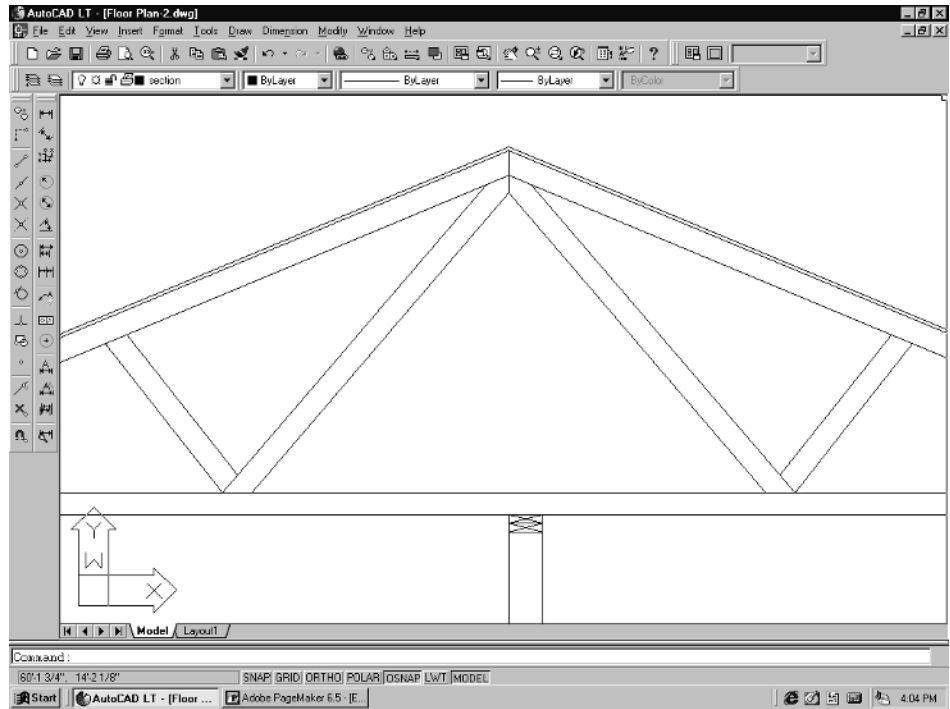

Figure 3-69
4. Erase the center lines of the webbing. Then use the Trim and Fillet commands to clean up the webbing. You should end up with something close to Figure 3-69.